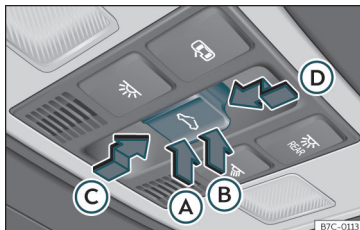

Fig. 117 On the interior roof lining: sunroof button.
The button **Fig. 117** has two levels. The first level switches the sunroof to the tilted position, opening or closing it fully or partially.
- *Sunroof*: within approximately 5 seconds of having activated the roll-back function, press the  button >>> **Fig. 117** to the second level in the direction of arrow >>> **Fig. 117**  until the sunroof closes completely.